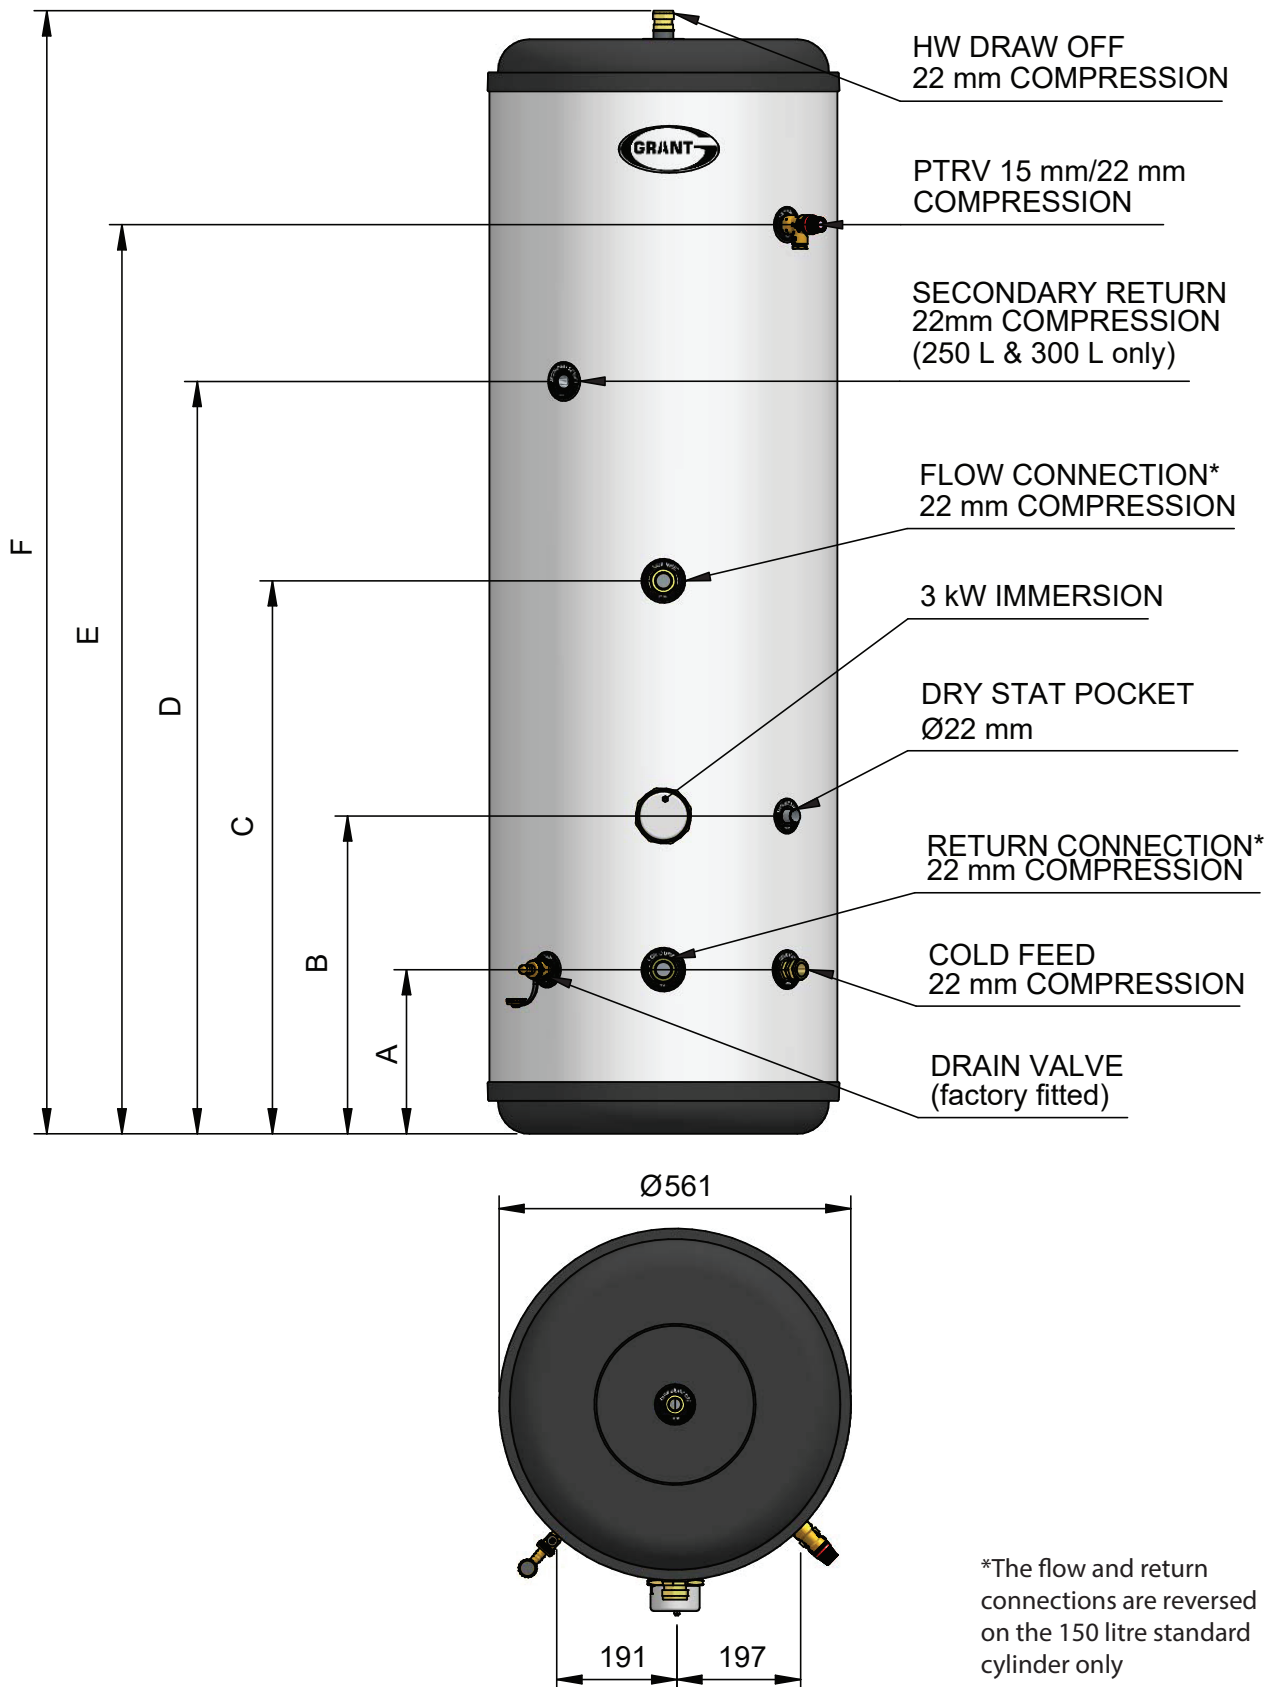

Figure 2-1: Grant QR2SC single coil Heat Pump cylinder dimensions
1. The primary flow and return connections from the heat pump should be made to the flow and return connections of the cylinder. Refer to Figures 2-1 to 2-3, as appropriate.